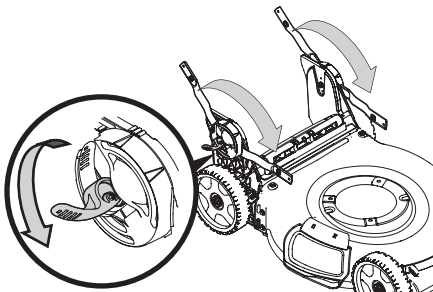

Figure 7
- Unlock the two handle release levers (Figure 7, inset).